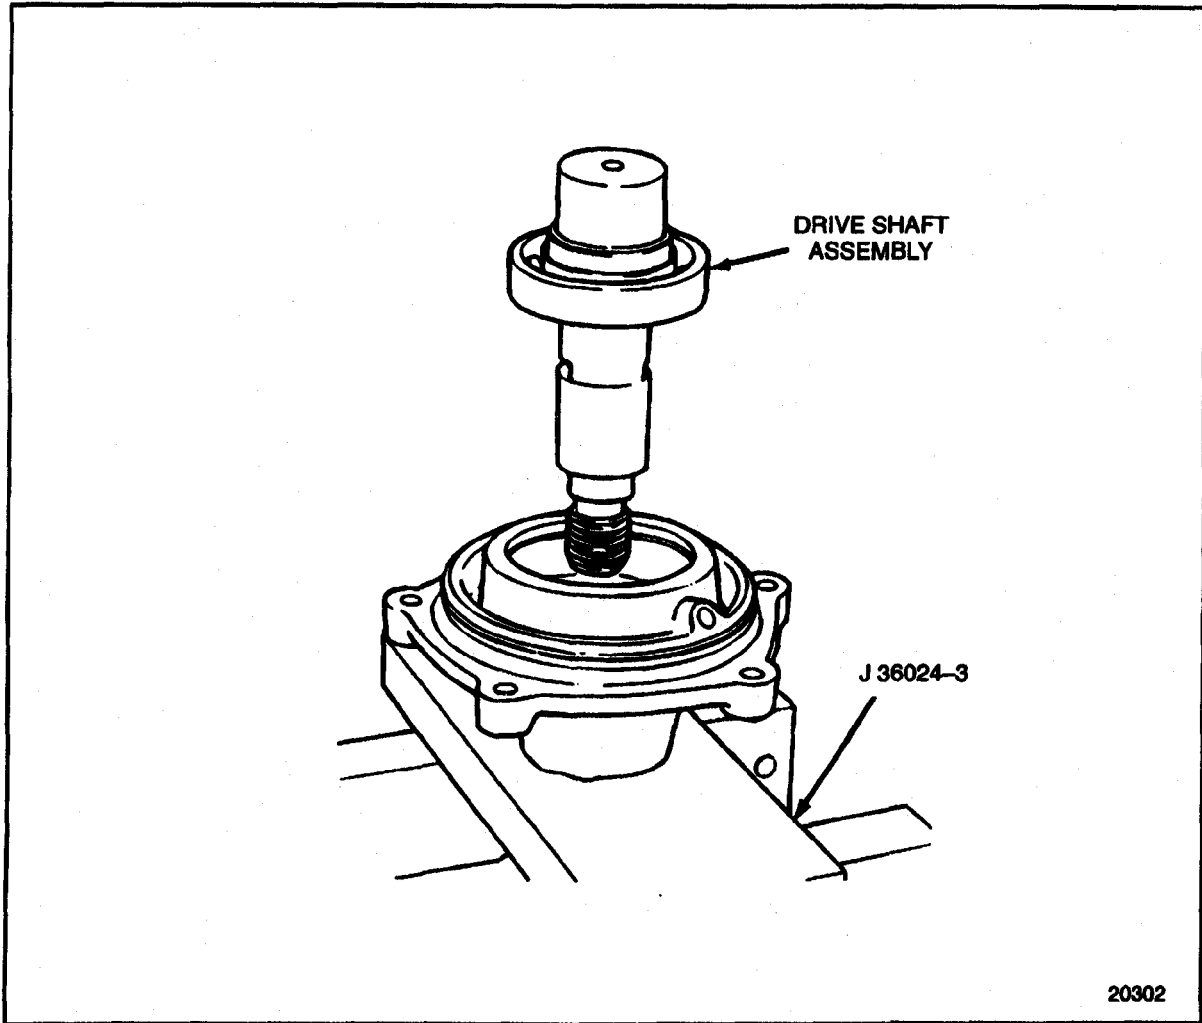

Figure 1-418 Bearing Installation
11. Press the bearing into the housing until the bearing is seated against the shoulder of the housing. See Figure 1-418.